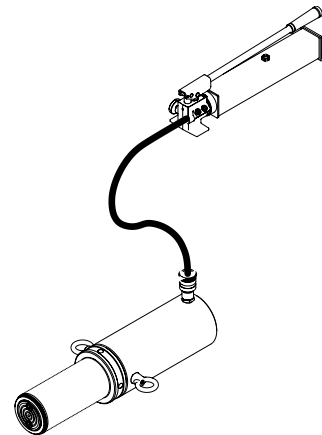

Figure 2 - Illustration to bleed air from system
1. Place pump at a higher elevation than the hose and cylinder as shown in Figure 2.
| Erratic action                                                                | <ul style="list-style-type: none"> <li>• Air in system or pump cavitation.</li> <li>• External leakage in cylinder.</li> <li>• Cylinder sticking or binding.</li> </ul>                                                                                            | <ul style="list-style-type: none"> <li>• Vent the system (refer to figure 2).</li> <li>• Contact service center.</li> <li>• Contact service center.</li> </ul>                                                                                                                                                                                                                          |
| Cylinder performs poorly                                                      | <ul style="list-style-type: none"> <li>• Oil level in pump is low.</li> <li>• Air trapped in system.</li> </ul>                                                                                                                                                    | <ul style="list-style-type: none"> <li>• Ensure proper oil level.</li> <li>• Vent the system (refer to figure 2).</li> </ul>                                                                                                                                                                                                                                                            |